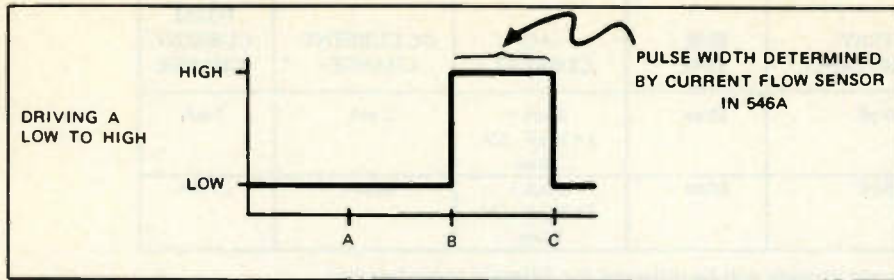

Figure 15. Driving a low node to a high state.
A. Driving a LOW node to a HIGH state: Since the node is already LOW, the pulser has no effect until it takes the circuit HIGH. When the pulser goes HIGH, it has sufficient output drive to take any normal circuit or bus HIGH momentarily. Total energy is limited (low duty cycle), however, to exclude the possibility of circuit damage, refer to Figure 15.